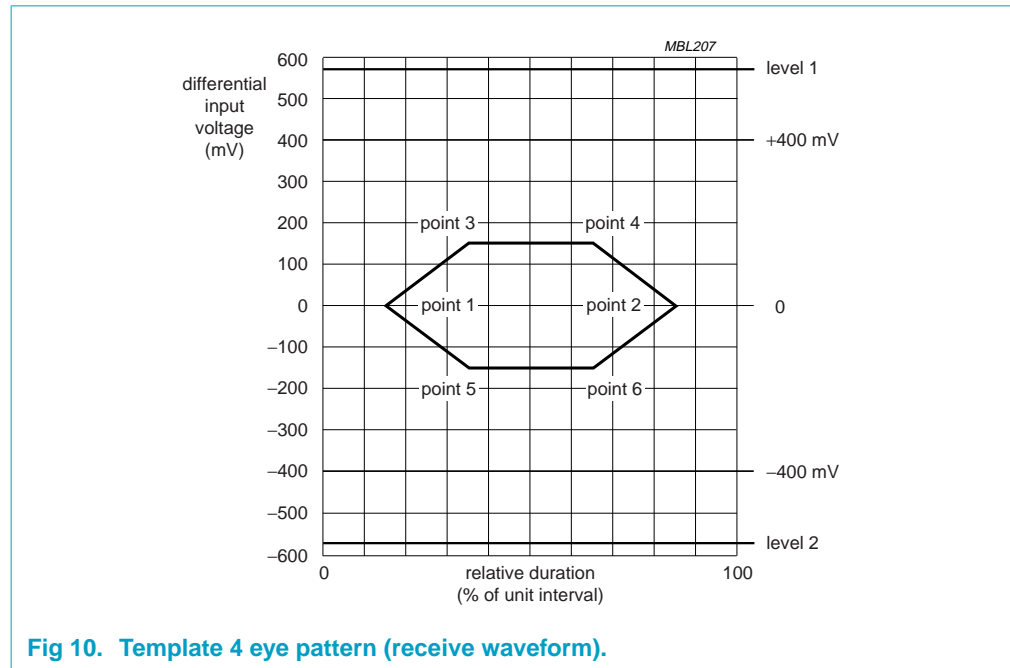

Fig 10. Template 4 eye pattern (receive waveform).
The eye pattern defined in Figure 10 defines the receiver sensitivity requirements for a hub (signal applied at test point TP2) or a device without a captive cable (signal applied at test point TP3). The corresponding signal levels and timings are given in Table 80. Timings are given as a percentage of the unit interval (UI), which represents the nominal bit duration T_{PERIOD} for a 480 Mbit/s transmission rate.